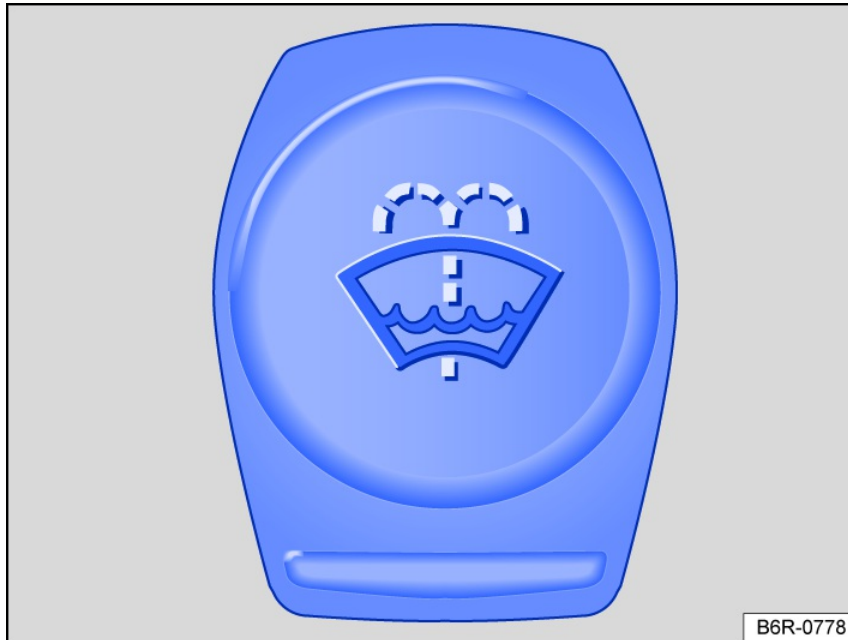

Fig. 153 In the engine compartment: cap on the washer fluid reservoir.
- The washer fluid reservoir is identified with the  symbol on the cap *fig. 153*.